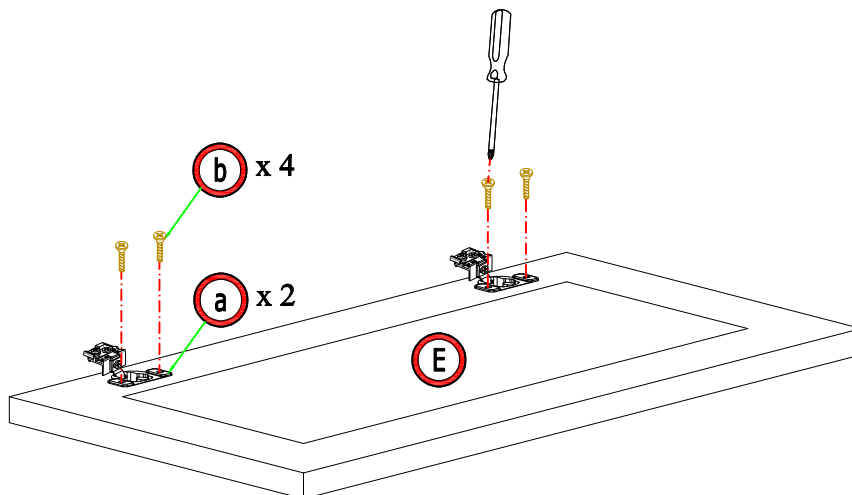

Figure 6
6. Assemble 2 hinges into one doors by screwdriver and 4 screw 7/15" (Figure 6)